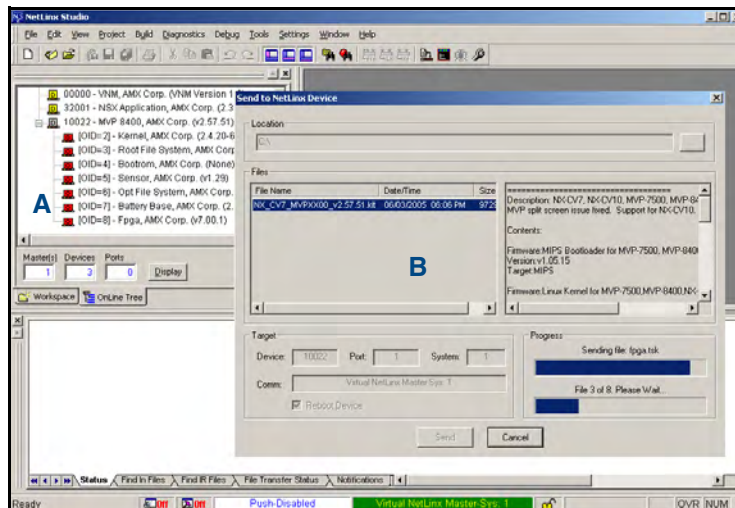

FIG. 38 Using USB for a Virtual Master transfer
7. Select **Tools > Firmware Transfers > Send to NetLinX Device** from the Main menu to open the Send to NetLinX Device dialog (B in FIG. 38). Verify the panel's System and Device number values match those values listed within the System folder in the **OnLine Tree** tab of the Workspace window (A in FIG. 38).
11. Click **Send** to begin the transfer. The file transfer progress is indicated on the bottom-right of the dialog (B in FIG. 38).